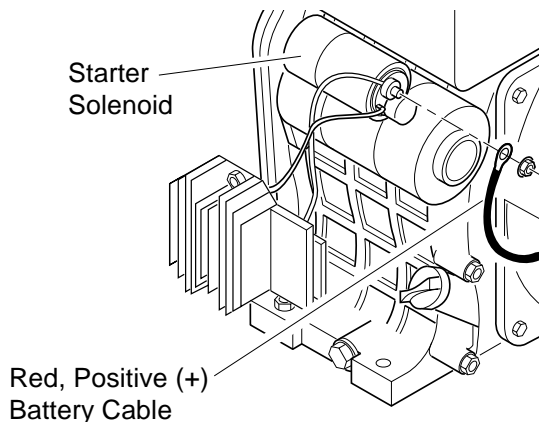

Figure 8 - Connecting Red, Positive (+) Battery Cable to Starter Solenoid on Engine
1. Attach the red, positive (+) battery cable to the starter solenoid on engine (see Figure 8).